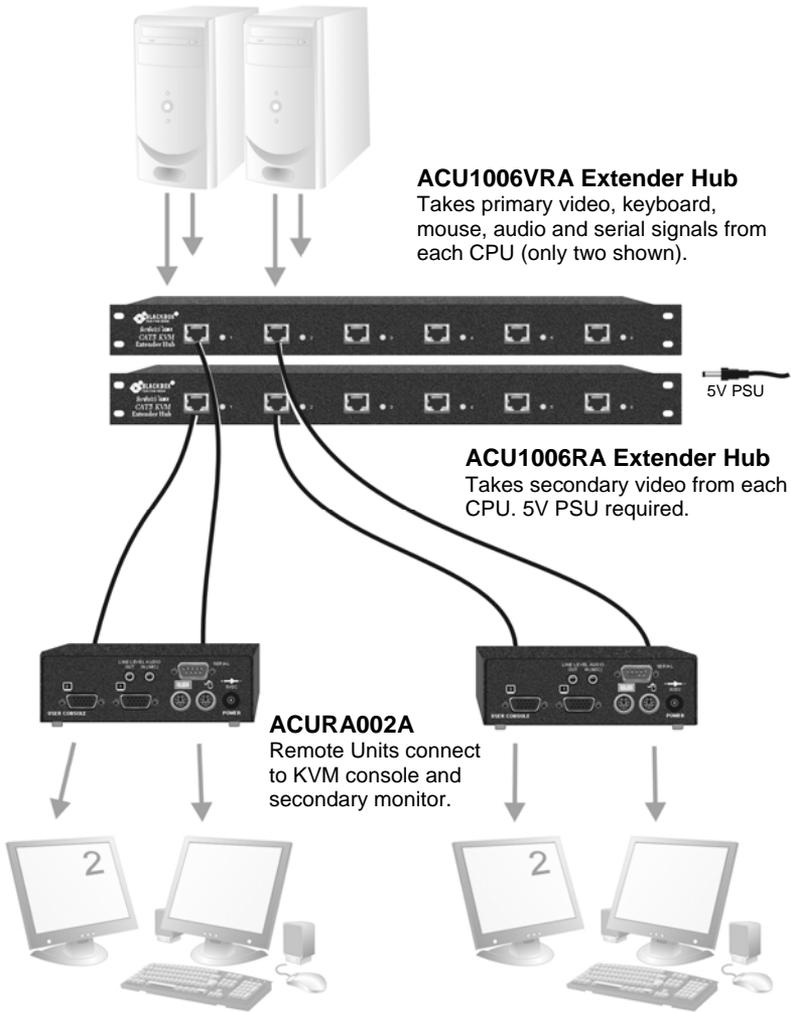

Figure 15
- Six dual-monitor consoles with serial and audio (Figure 15).